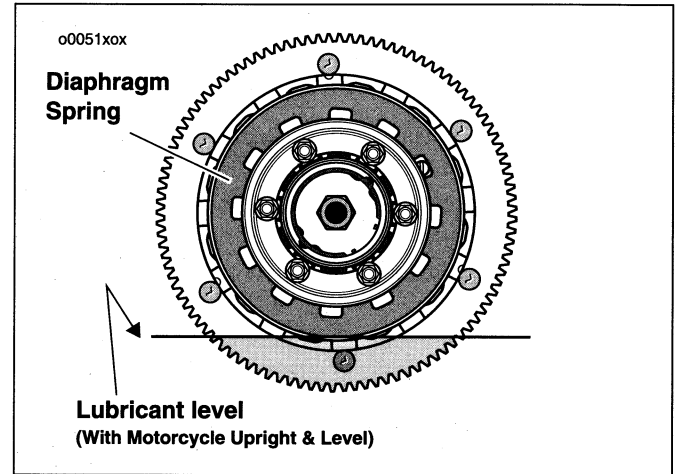

Figure 67. Lubricant Level
4. See Figure 67. Primary chain case lubricant should be at the bottom of the clutch diaphragm spring.
5. See Figure 67. Pour the proper amount and type of primary chaincase lubricant in through the clutch inspection cover opening.